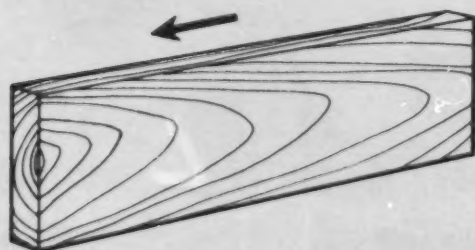

Figure 5-19 Plane with the grain
1. Check the grain of the wood (*Figure 5-19*).